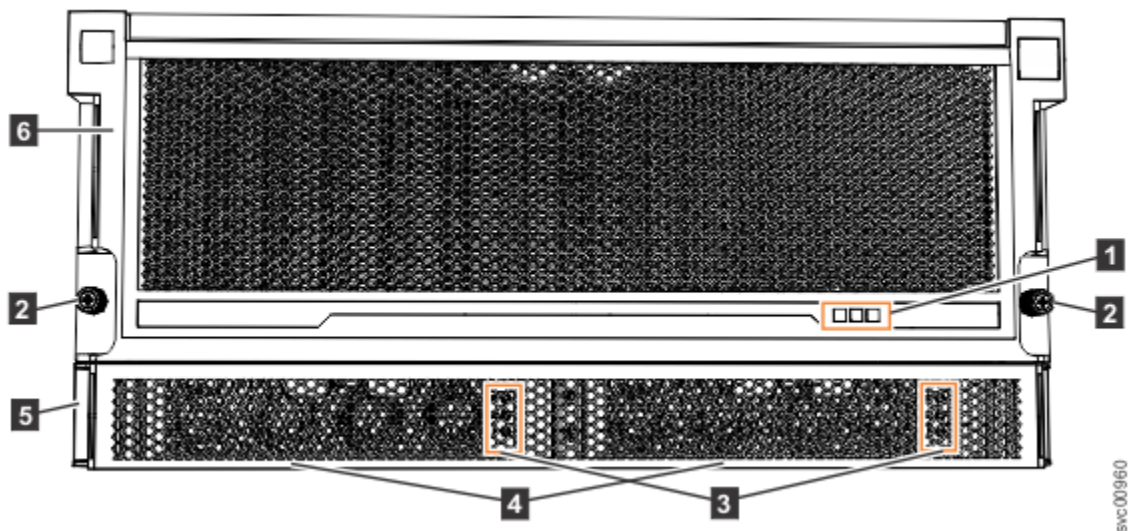

Figure 144. Features on the front of the 2076-92F expansion enclosure
- Before you connect the power cables to the rear of the enclosure, always check that the expansion enclosure is secured in the rack. If needed, tighten the thumbscrews on the front of the enclosure (2 in Figure 144 on page 129) to ensure that the enclosure drawer does not roll open.
The 2076-92F expansion enclosure has two power supply units (PSUs) that are accessible from the front of the enclosure (4 in Figure 144 on page 129). As the figure also shows, the PSUs are covered by the 1U fascia (5).